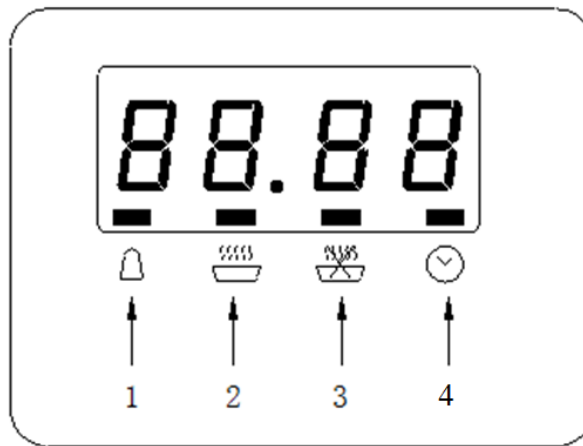

Figure 7
- Once the oven is connected to electrical power, the clock display will show “12:00” with the square symbol above “” (See Figure 7)